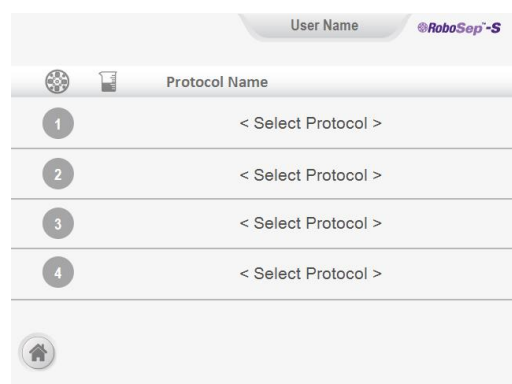

Figure 12. The Run Samples Screen
3. Once homing is complete, the Run Samples screen is visible on the touchscreen (Figure 12). Continue with RoboSep™-S operations.